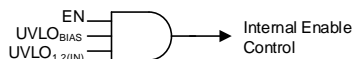

图 41. Simplified Turnon Control
Controlling when a single power supply turns on can be difficult in a power distribution network (PDN) because of the high power levels inherent in a PDN, and the variations between all of the supplies. As shown in 图 41 and 表 2, the LDO turnon and turnoff time is set by the enable circuit (EN) and undervoltage lockout circuits ($UVLO_{1,2(IN)}$ and $UVLO_{BIAS}$).